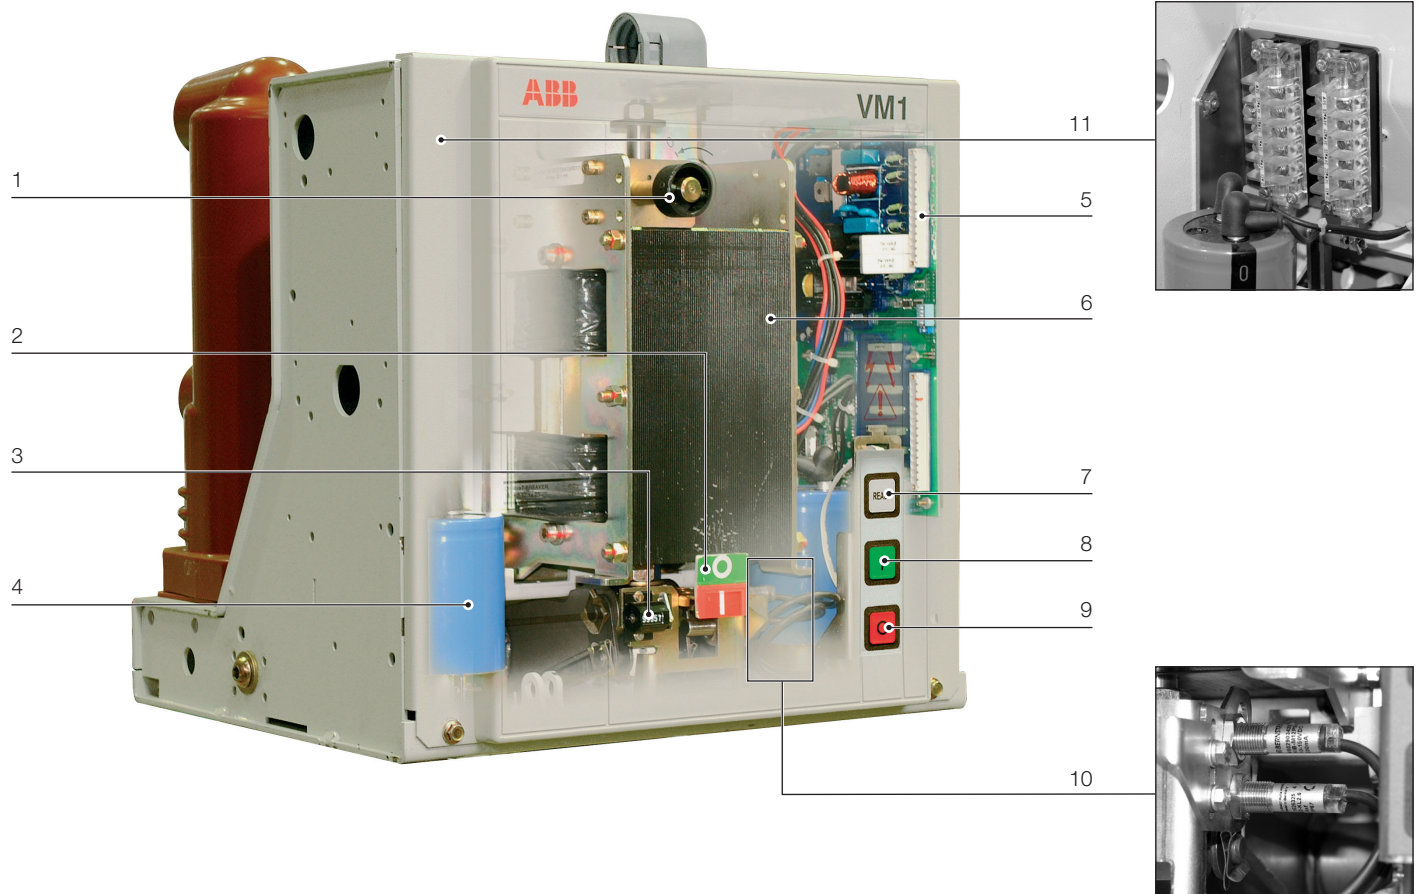

Fig. 11
The drive is of the magnetic type and basically consists of the magnetic actuator (6) (Fig. 11), the control module (5), the sensors (10), the capacitor/s (4) and the kinematics which transmit the movement to the circuit-breaker poles.
The use of two inductive proximity sensors (10 Fig. 11) allows the state of the circuit-breaker (open - closed - anomalous intermediate position) to be determined without the use of auxiliary contacts, allowing continual monitoring of the system. The signal of the two sensors is sent to the electronic control module.